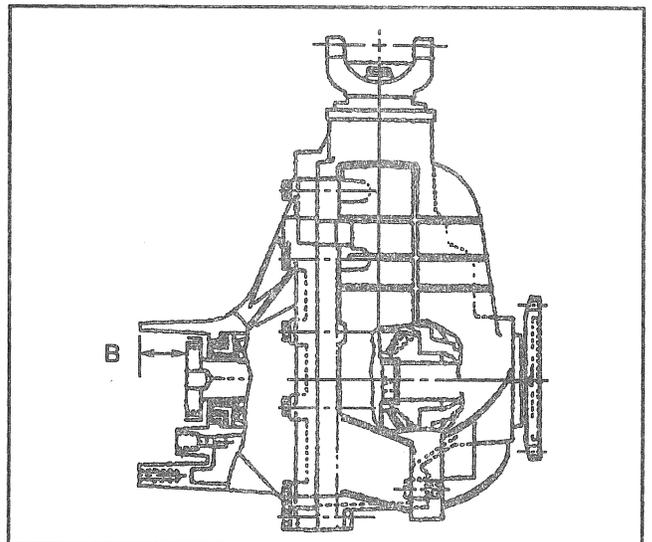

Figure 46—Measuring to Calculate Shim Size—Carrier Case
3. Measure dimension "B." (Figure 46 and 48)